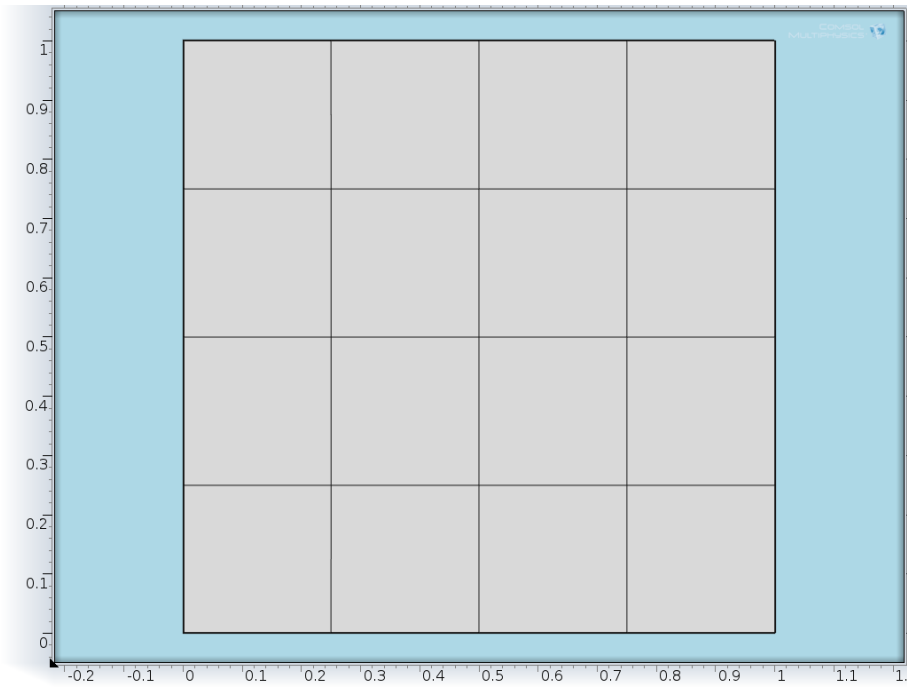

Figure 23: 4-by-4 mesh.
- 5 Mesh the same square with 16 equal elements in 4-by-4 arrangement according to the Fig. 23. Plot the mesh as the element quality plot.